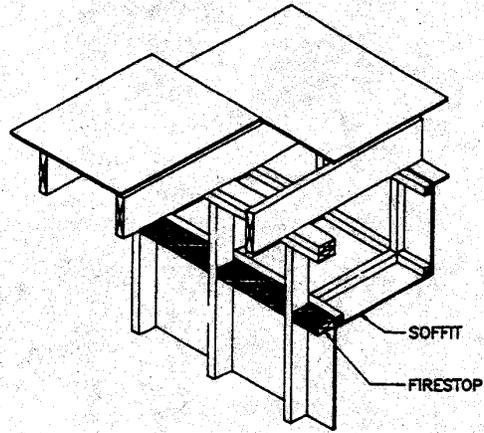

FIGURE 602.7c
2. At all interconnections between concealed vertical and horizontal spaces such as soffits (Figure 602.7c), dropped ceilings (Figure 602.7d) and cove ceilings (Figure 602.7e). Interconnections such as shown in Figure 602.7f for a bathtub installation must also be firestopped.